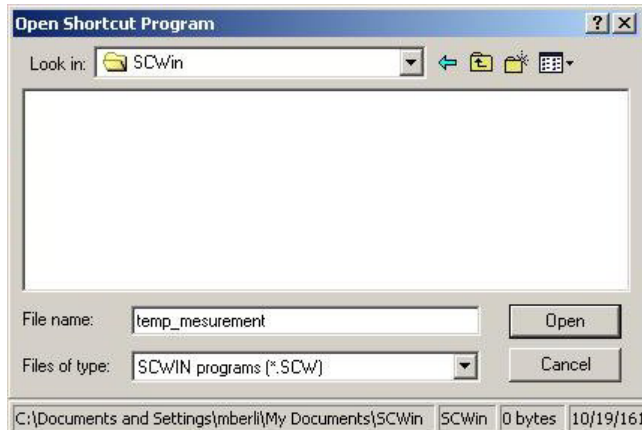

Fig. 2 Definition of the logger program file
2. Note only the “Program” button is active. Press the “Program” button and the following window (Fig. 2) will appear.